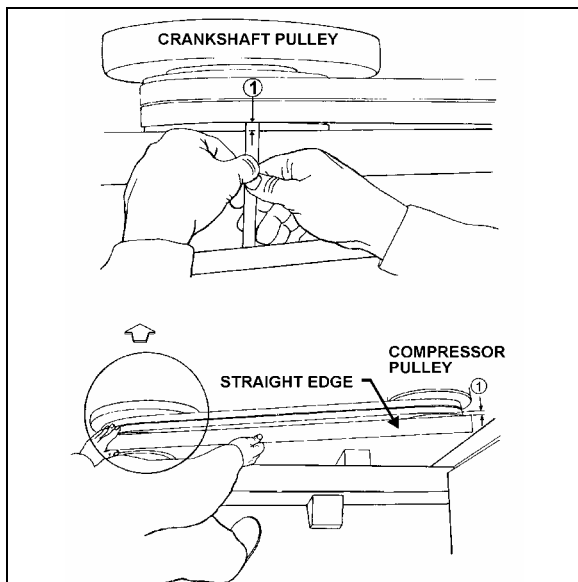

FIGURE 22: COMPRESSOR ALIGNMENT 22040
2. Check the distance between each extremity of straight edge (1. Fig. 22) and the first drive belt. If they are different, loosen the compressor support bolts and with a hammer, knock support to slide it in order to obtain the same distance; then tighten bolts.
2. Check the distance between each extremity of straight edge (1, Fig. 22) and drive belt. If they are different, loosen the pillow block compressor bolts and with a hammer, knock compressor pillow block to slide it, in order to obtain the same distance; then tighten bolts.